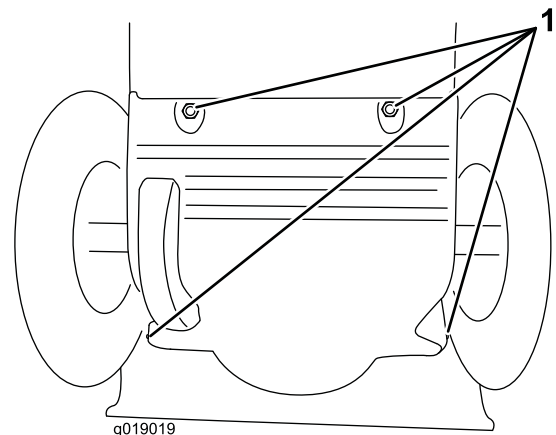

Figure 39
3. Remove the back cover (Figure 39).